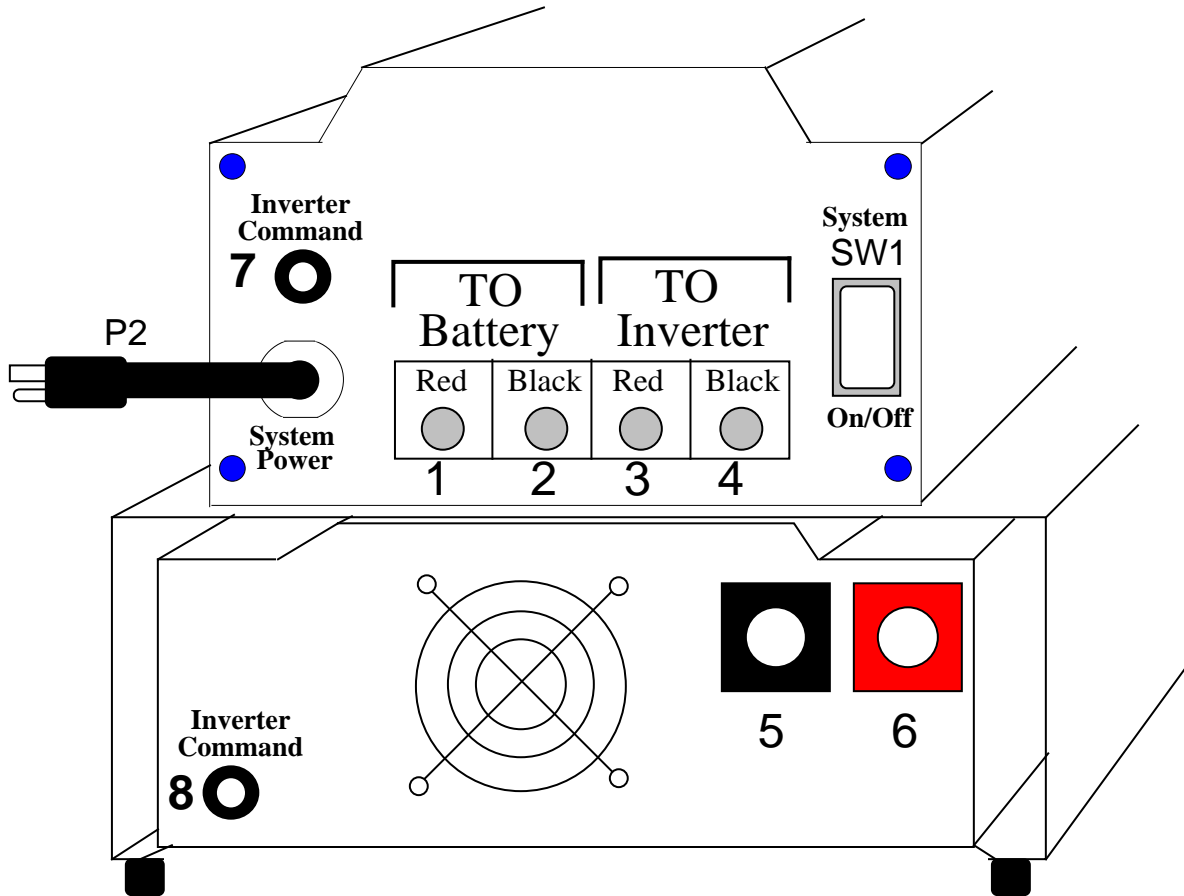

Figure 2
Figure 2 shows the rear view of the unit.
**G) Turn master rocker switch SW1 shown in Figure 2 to the “ON” position by pressing on the lower part of the rocker and exposing its top red portion. This step energizes the charger, transfer switch, and enables the inverter command.**
**H) Locate the 7 inch long black connector wire (inverter command wire) which is terminated at both ends with a banana plug. Insert one end into jack (7) and the other into jack (8) both shown in Figure 2. This last step enables the inverter. **Should you wish to disable your SF 707 for storage or battery servicing, it is important that you not only turn off the master switch SW1 in Figure 2, but also disconnect one end of the inverter command wire. Otherwise your inverter will continue to function until it discharges the battery completely.****